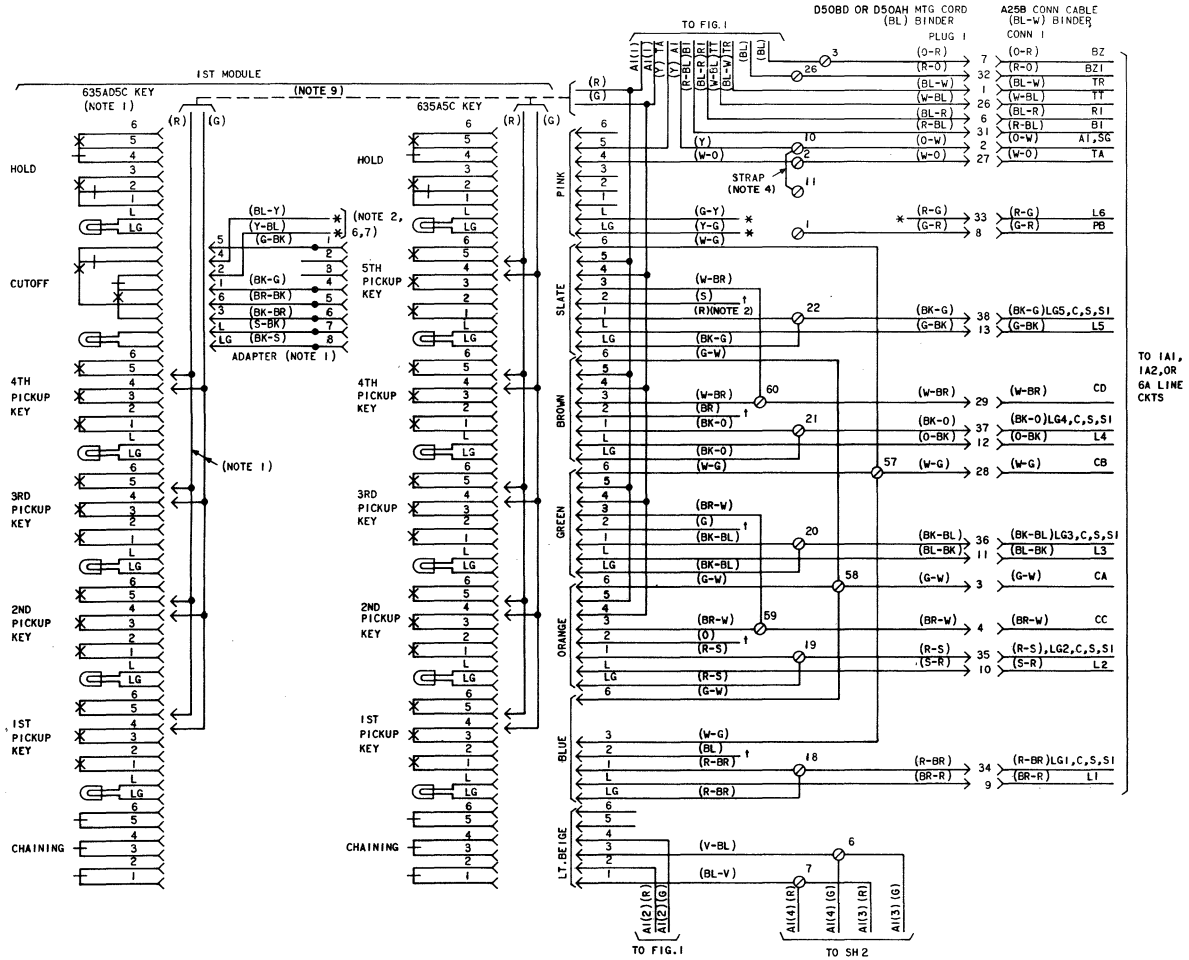

Fig. 2—2634DA or DAM Telephone Set Module and Connector Cable Arrangements (Sheet 1 of 3)
NOTES FOR FIGURES 2 AND 3:
1. THE 635AD5C KEY IS SUPPLIED WITH AN ADAPTER IN THE CUTOFF KEY POSITION. IN SETS EQUIPPED WITH D50AH OR D80D (MD) MOUNTING CORD, CONTACT STRIP ASSEMBLIES 840151039 AND 840151047 FURNISHED WITH THE 635AD5C KEY REPLACE THE 840151120 AND 840151138 ASSEMBLIES USED WITH THE 635A5C KEY. THE SLATE MOUNTING CORD PLUG CONNECTS TO THE ADAPTER. BALANCE OF PLUGS CONNECT DIRECTLY TO KEY.
2. IF A 635AD5C KEY IS ADDED IN THE FIELD, TERMINATE THE (BL-Y) AND (Y-BL) ADAPTER LEADS AS INDICATED IN NOTE 6 AND REMOVE (R) SLATE PLUG LEAD FROM TERMINAL 22, INSULATE AND STORE.
4. IN SETS EQUIPPED WITH A 658A KEY, THE (G) CONTACT STRIP OR PLUG STRAP LEAD IS TERMINATED ON TERMINAL 10 AND (R) ON 11. IF A 658A KEY IS ADDED IN THE FIELD, LEADS MUST BE MOVED FROM PRECEDING MODULE CHAINING CIRCUIT TO TERMINALS 10 AND 11. PROVISIONS ARE MADE FOR MECHANICALLY STORING THE LIGHT BEIGE PLUG ON THE 658A KEY. NO ELECTRICAL CONNECTION IS MADE.
8. CONTROL LEADS CA TO CJ ARE CONNECTED TO TERMINALS 57 TO 65. THESE TERMINALS APPEAR ON MORE THAN ONE OF THE MODULE SHEETS OF FIG. 2 AND 3 BUT ARE THE SAME TERMINAL.
9. THESE CONTACT STRIPS ARE REQUIRED WHEN TELEPHONE SET IS EQUIPPED WITH THE D50AH (MD) OR D80D (MD) MOUNTING CORD. THESE CONTACT STRIPS SHOULD NOT BE USED WHEN TELEPHONE SET IS EQUIPPED WITH THE D50BD OR D80E MOUNTING CORD.